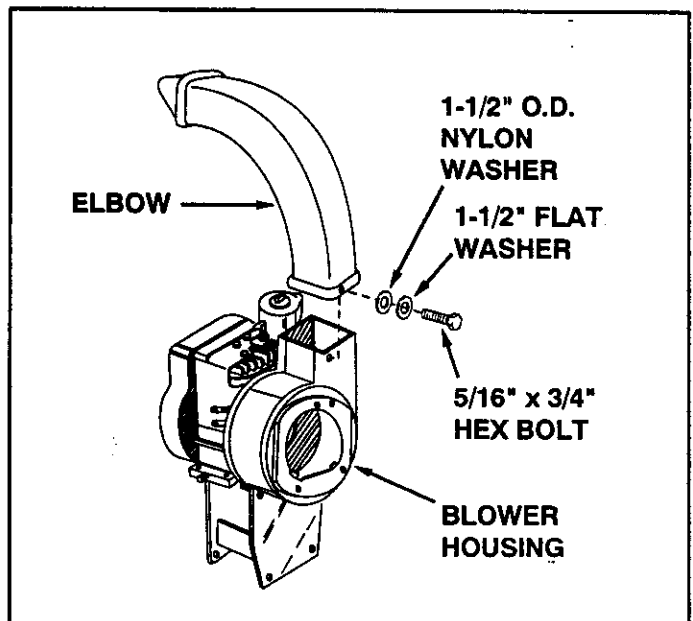

FIGURE 20
- Assemble the elbow to the blower housing, using two 5/16" x 3/4" hex bolts, two large 1-1/2" nylon washers, and two 1-1/2" flat steel washers. See figure 20. Tighten hex bolts securely.